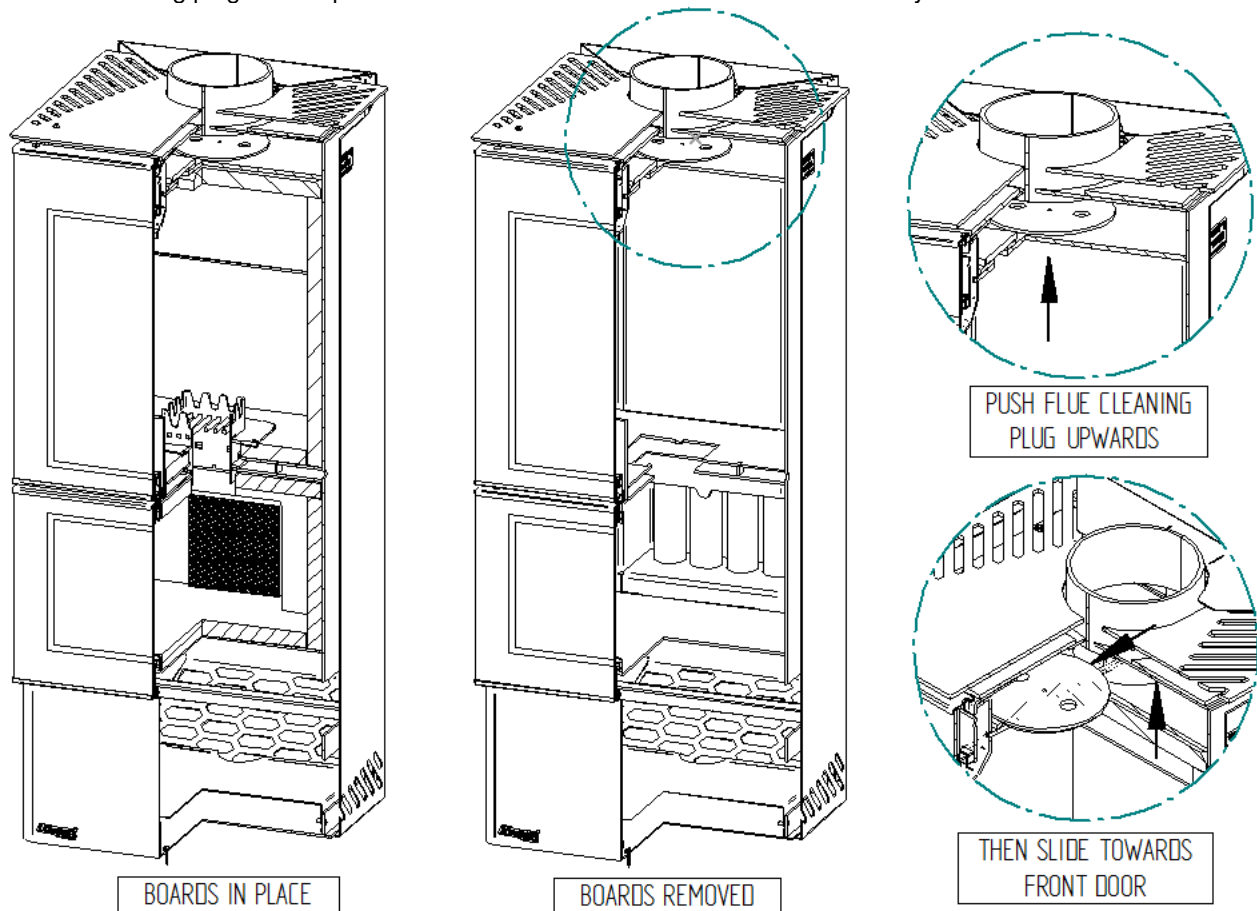

Fig 6.2
5. Fig 6.2 shows the location of flue cleaning plug situated inside the top exhaust chamber which is above the top baffle board.